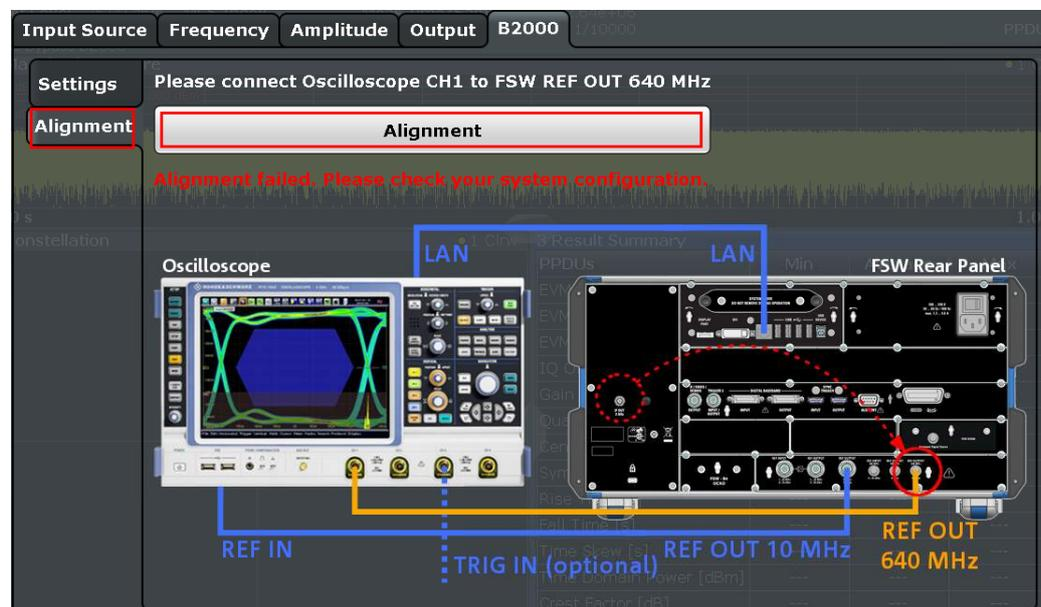

Figure 4-8: First step of alignment with REF OUT 640 MHz signal.
1. Connect the RTO Channel 1 to the REF OUT 640 MHz connector at the rear panel of the FSW as depicted in Figure 4-8